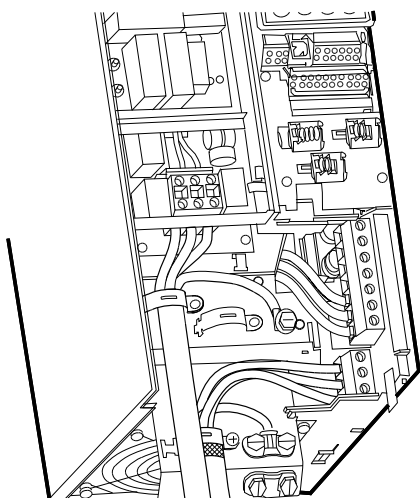

Fig. 16 Mains and motor connection, B3
1. Connect the earth conductor to terminal 95 (PE). See figs 16 and 17.
1. Connect the earth conductor to terminal 99 (PE). See figs 16 and 17.
2. Connect the motor conductors to the terminals 96 (U), 97 (V), 98 (W).